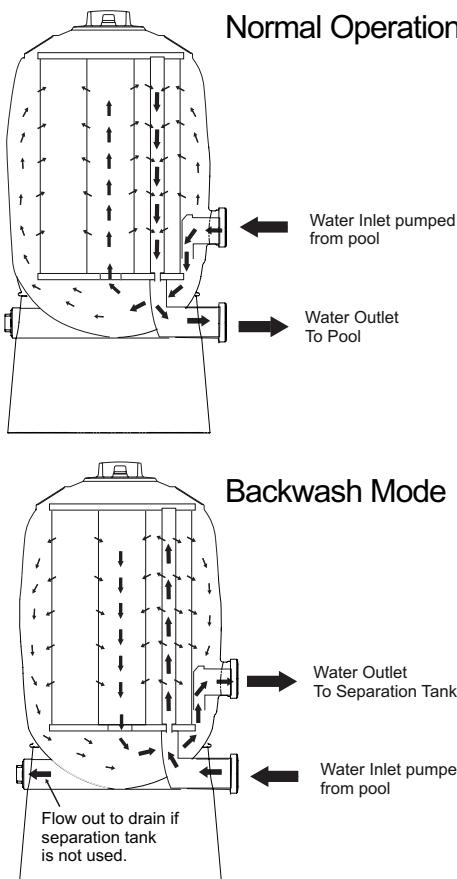

FIGURE 1B – Piping Connections
### Piping (See Figure 1B for correct connections):
- For installation allowing backwashing, install Sta-Rite Two Position Slide Valve or Multiport Selector Valve with filter. See Table 3. If you intend to clean your filter according to "Module Cleaning Procedure", Page 7, no slide or multi-port valve is required. See Figure 1B, Page 4, for correct water flow when connecting pipe.